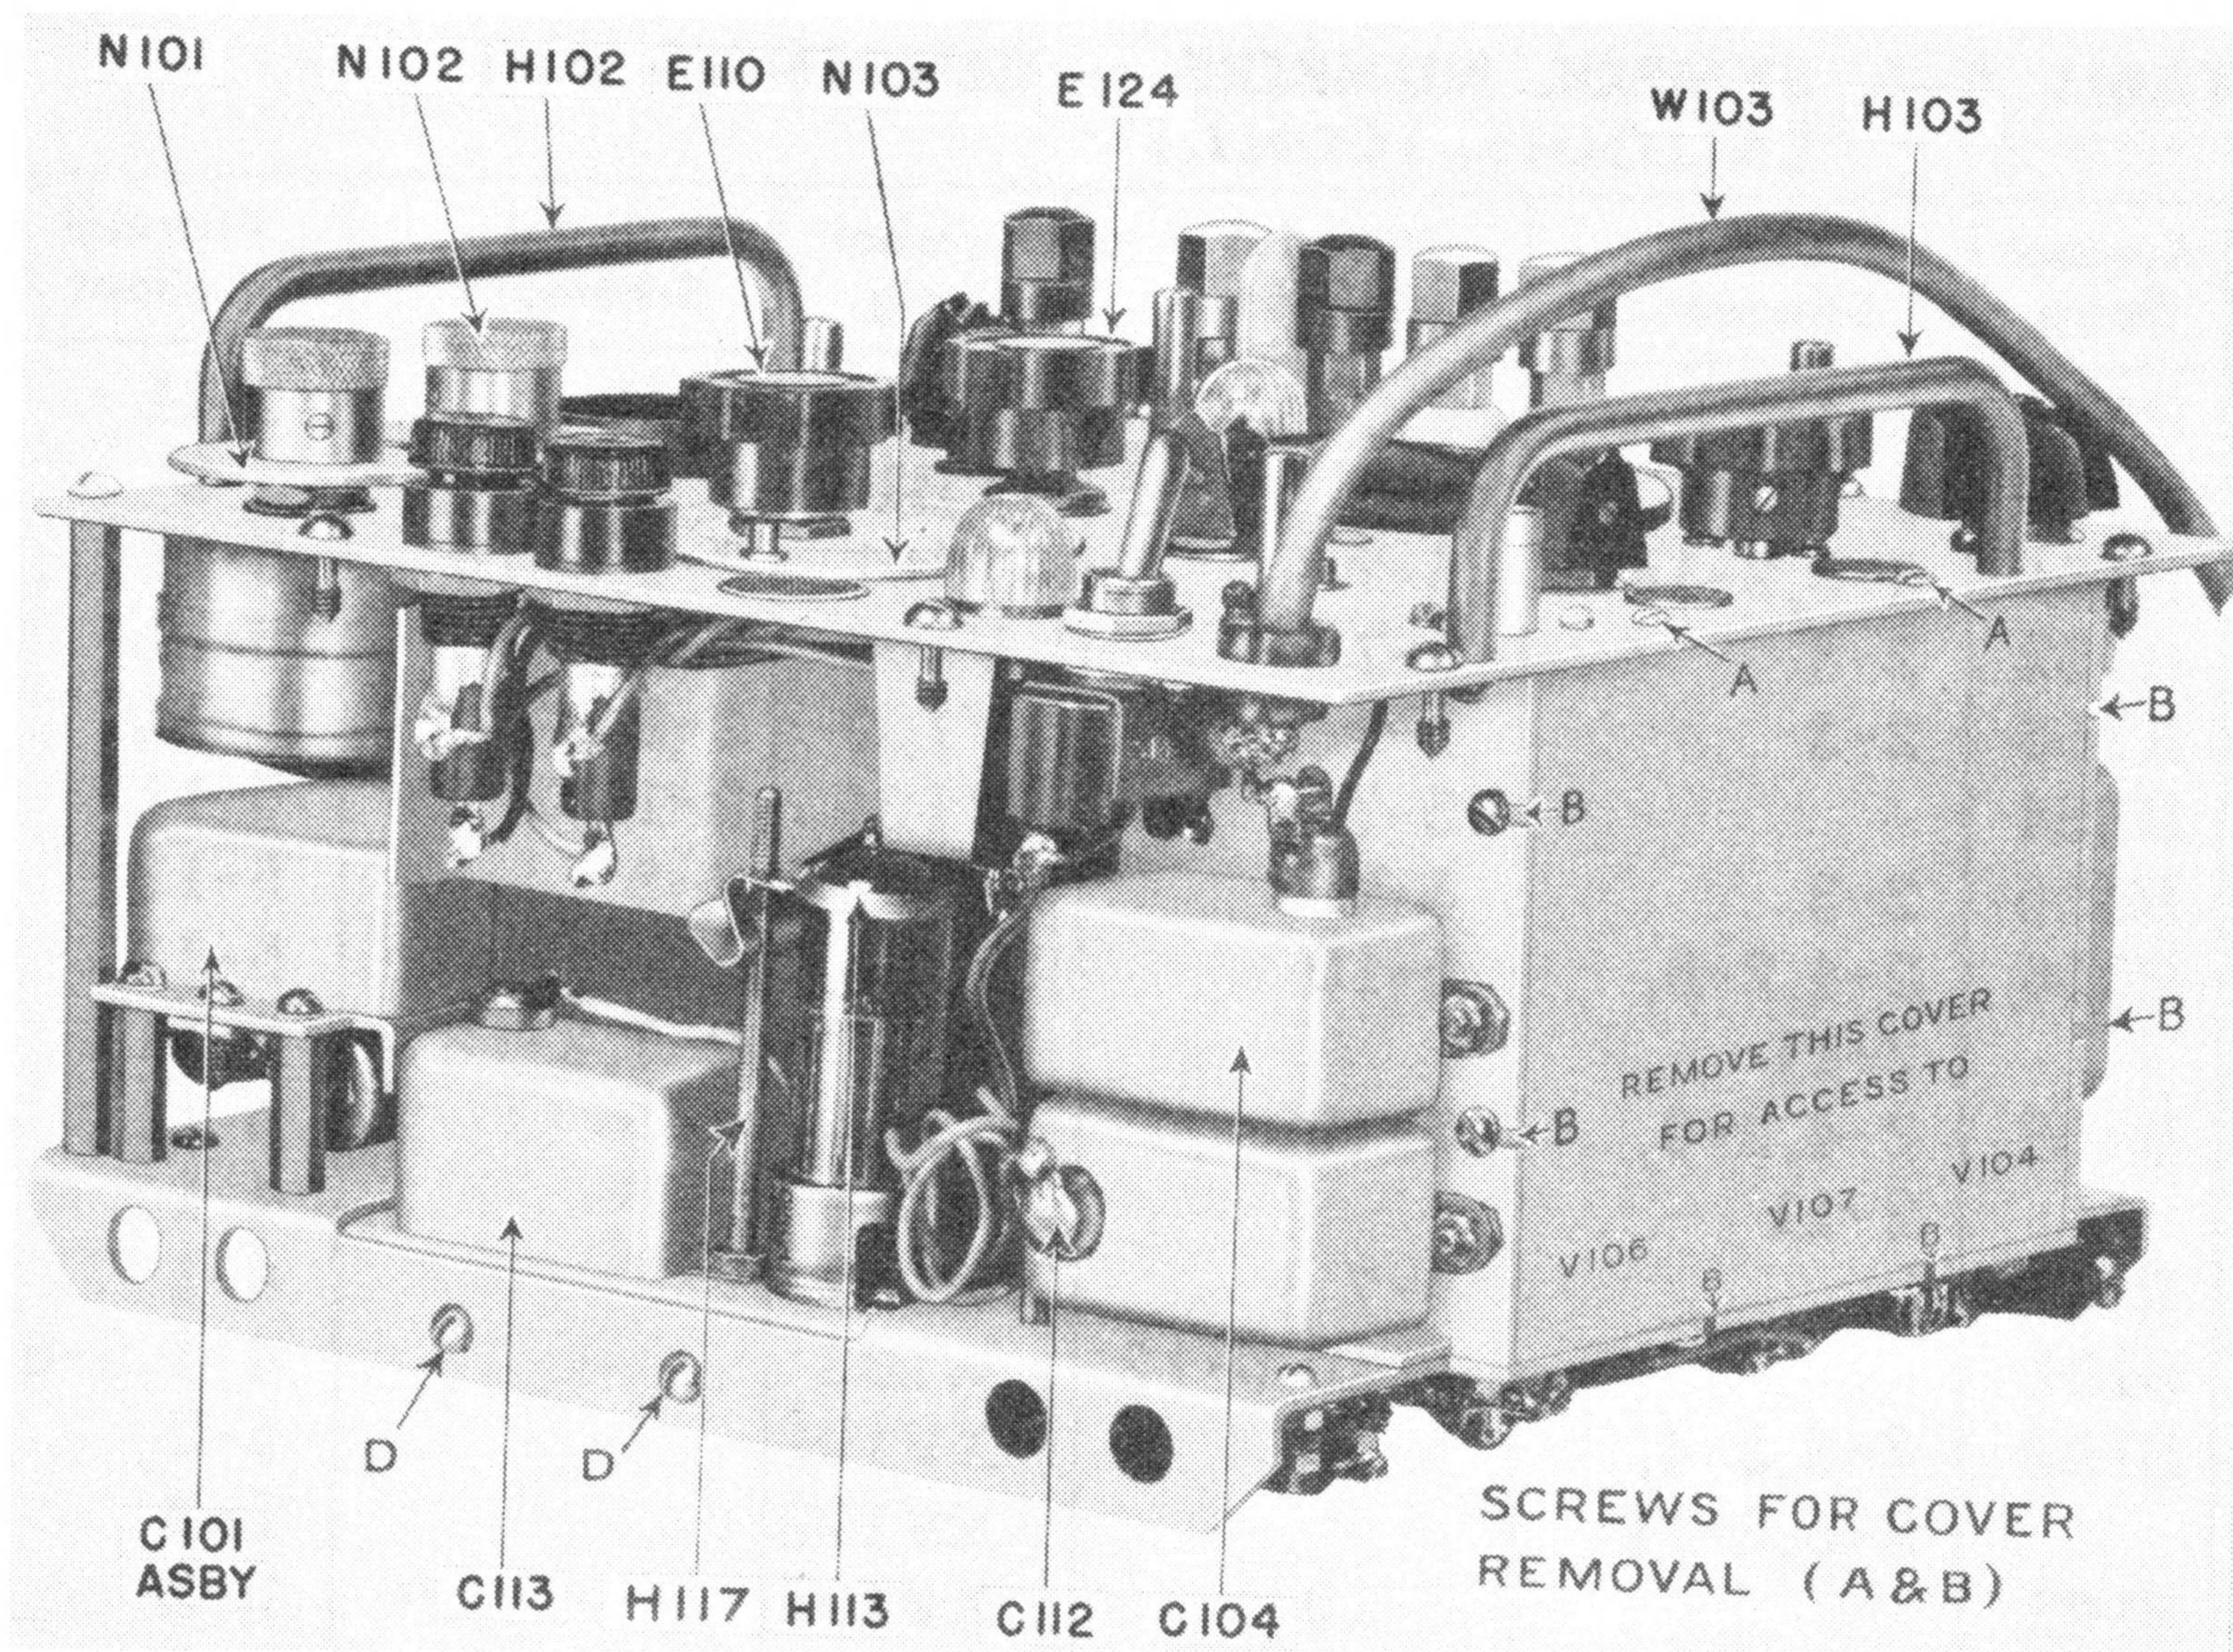

Figure 5-8. Bridge ZM-11/U, Front Side.
the end shield covering them (see Figure 5-8). Remove the two screws under the handle marked "A". Loosen the six screws marked B; these will pass through the slots as the shield is slid out. The shield may be started by a tool inserted through a slot at the lower edge. These three tubes are secured by post-type clamps like the one securing V108.
a. CAPACITOR ASSEMBLY, C101 - This unit, see Figures 5-8 and 5-11, consists of one major capacitor of 1.0 uf, or slightly less, swamp-adjusted by none to three smaller capacitors and all mounted on a metal mounting plate. Because of the close tolerance maintained in its construction it is replaceable only as a unit. The whole plate should be removed when replacement is contemplated.